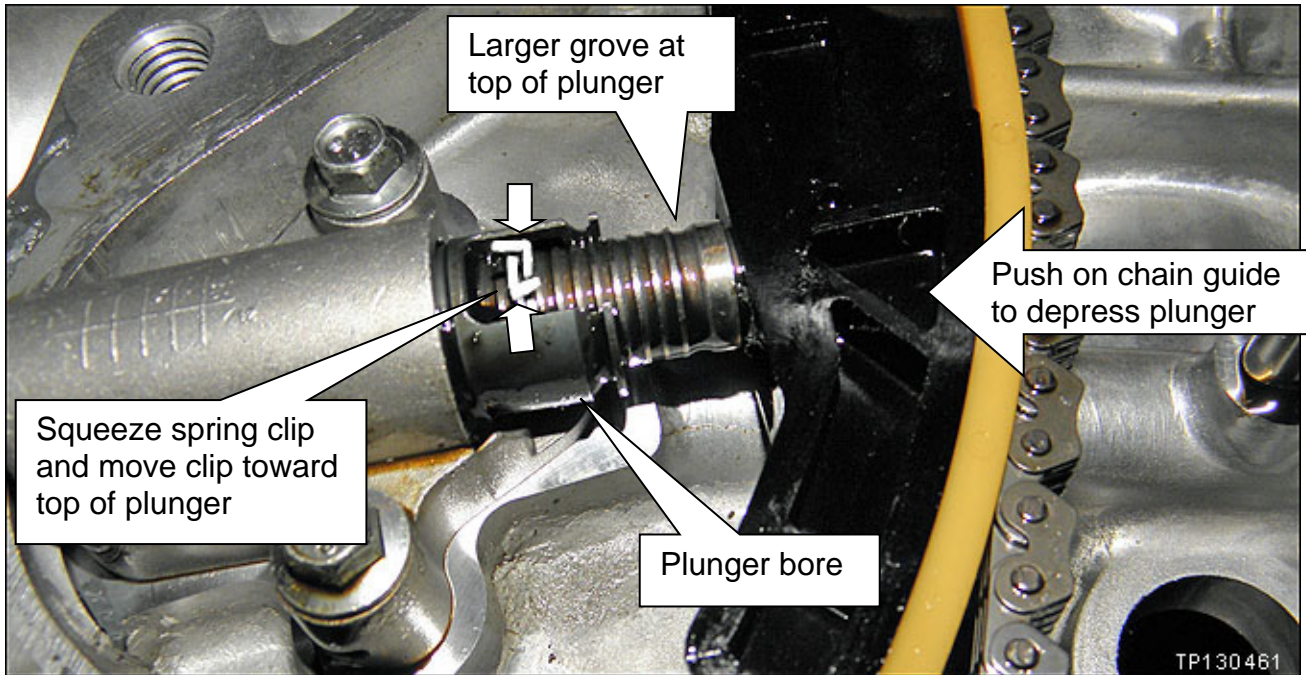

Figure 32
41. Lock the timing chain tensioner plunger in the depressed position as follows (see Figures 32 and 33):